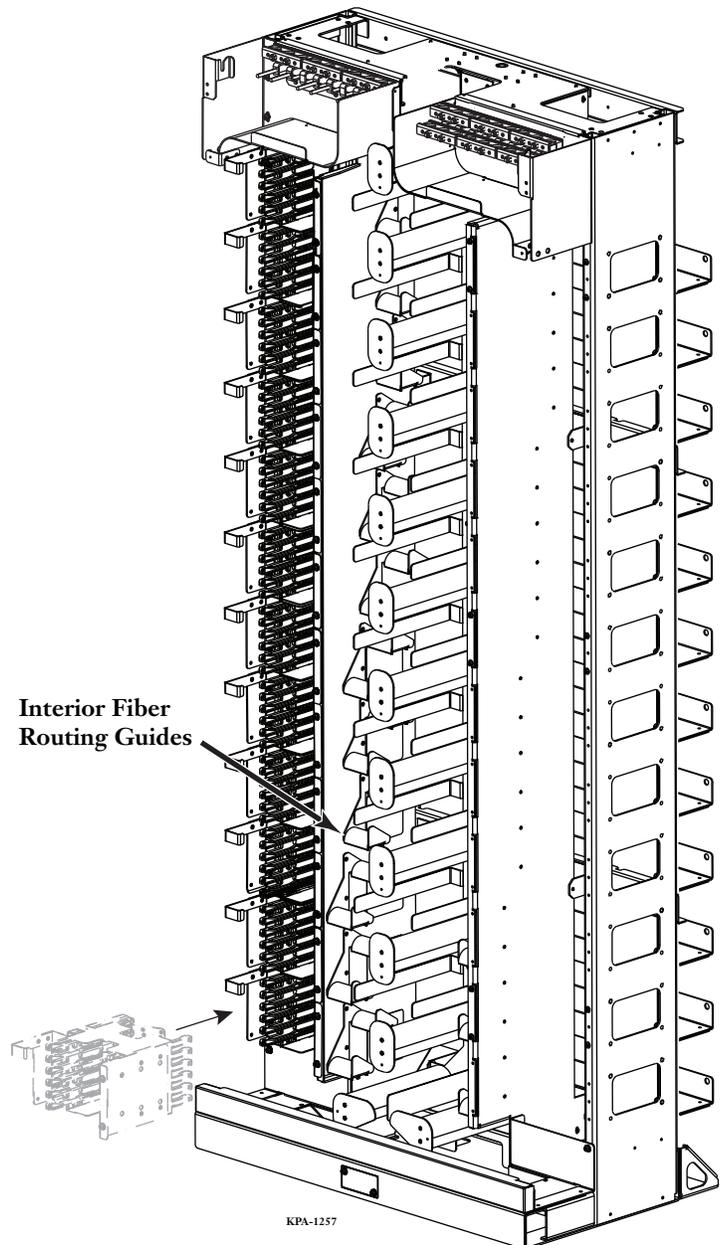

Figure 4
- Step 1:** Starting from the bottom of the frame, slide the empty housing into the frame (Figure 4).